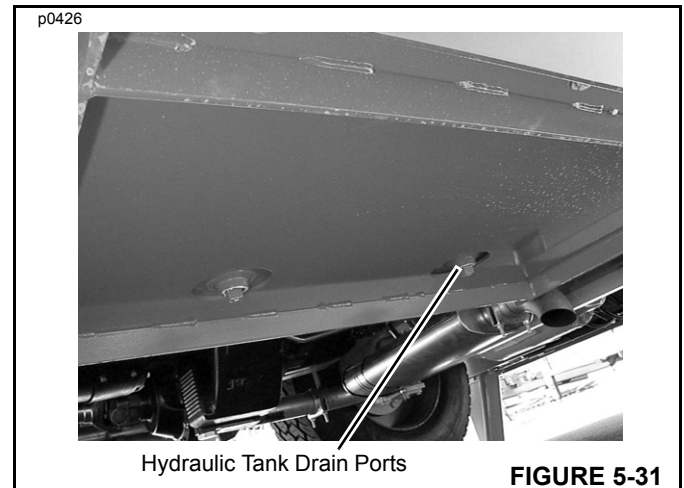

FIGURE 5-31
5. Place a suitable container under the hydraulic tank drain ports (Figure 5-31).